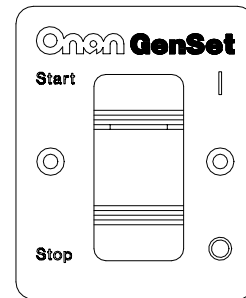

FIGURE 1-4. REMOTE SWITCH
- Remote switch with status indicator light only (Figure 1-4).